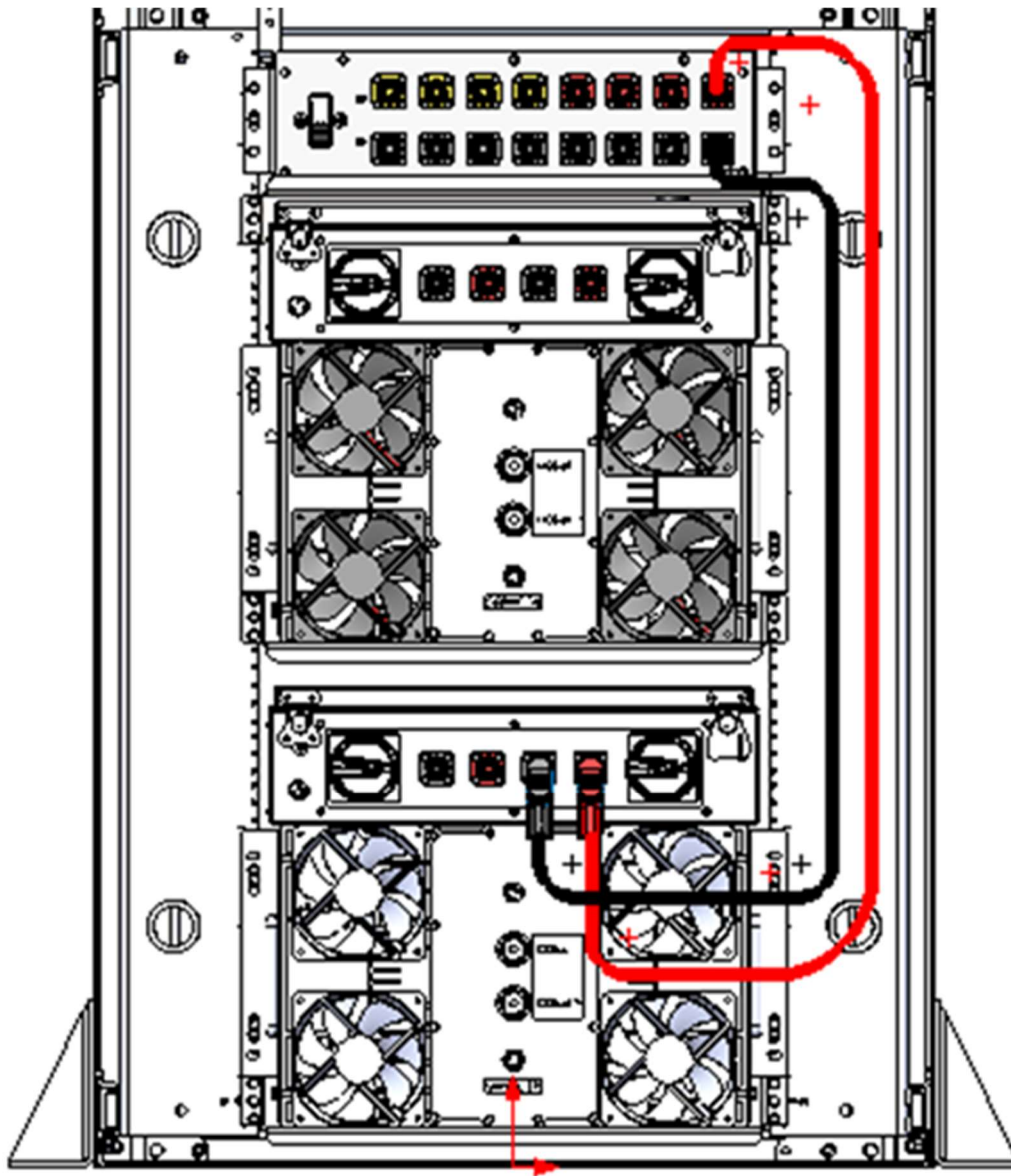

FIGURE 19: SURLOK CABLING ROUTED JBOX TO SECONDARY FEED #1
- (4) 4-foot power cables with SurLok connectors connect SPOT/BOSS units #2 and #3 to the JBOX
- Route all cables along the right-side stanchion as shown in Figure 19.